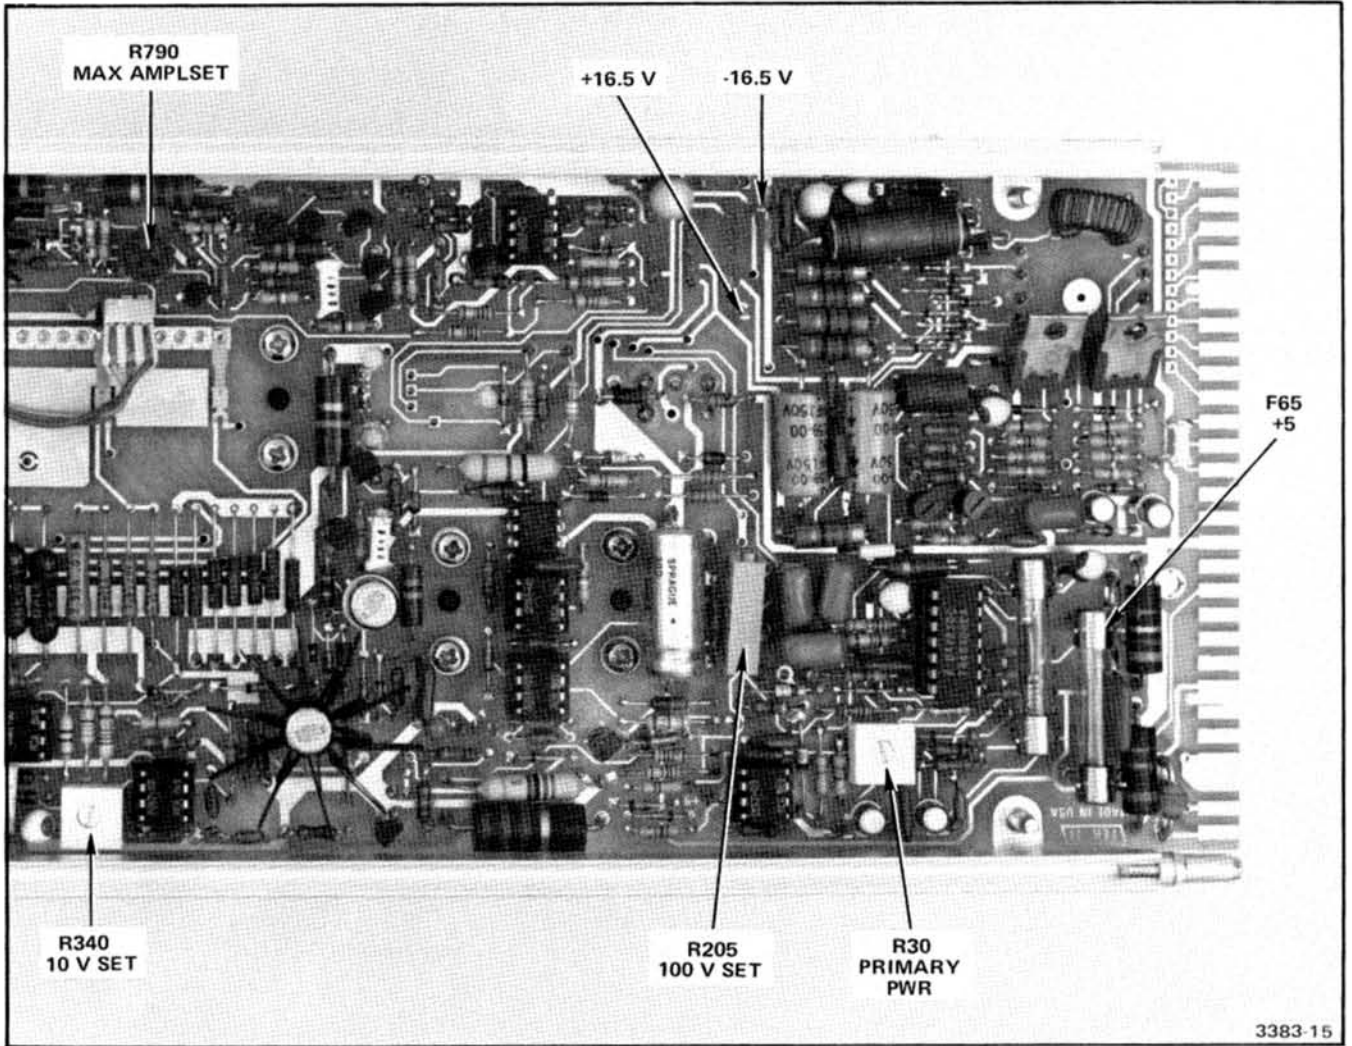

Fig. 4-5. Adjustment locations for the A1 Main circuit board.
- Connect the voltmeter high input lead to the +16.5 V test point. Refer to Fig. 4-5.
- b. Connect the voltmeter high input lead to the top end of F65. Refer to Fig. 4-5.